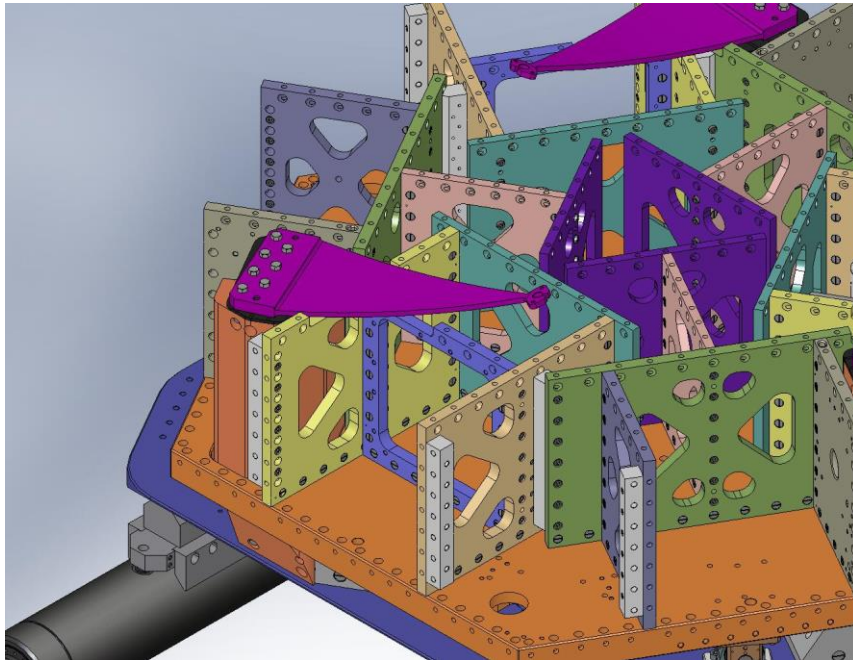

Figure 4.85. A Spring positioned on a Support Post.
- Place a **Spring** (D071100) on each **Support Post**, as shown in Figure 4.85. A hole and a slot in each **Spring** should slip around the dowel pins in the **Posts**. Start **D0900198 silver-plated** screws, to keep the **Spring** from tipping over.